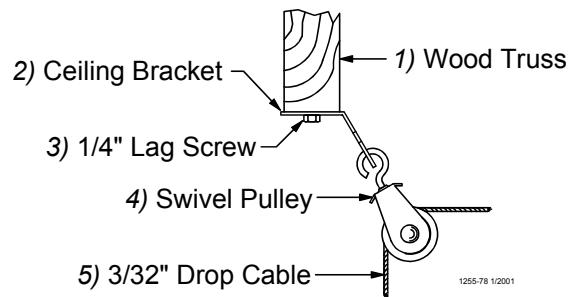

Figure 17. Pulley Installation
6. After securing the Ceiling Hook to the truss, slide the hook of a Swivel Pulley into the slot, as shown in **Figure 17. Pulley Installation** on page 14.